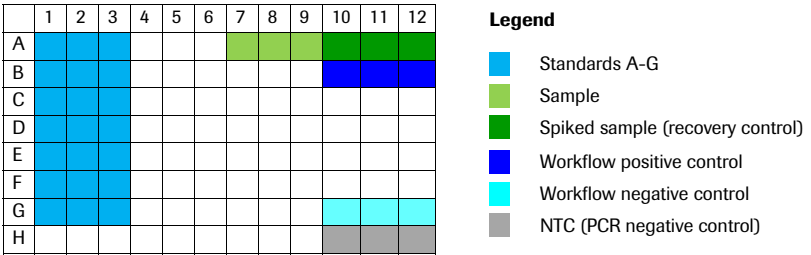

Fig. 2: Plate configuration proposal for one sample.
Figure 2 illustrates an example of a plate setup for only one sample, including all standards and controls. For accurate quantitative results, run triplicates for each PCR. Always run negative controls (NTC). To prepare a negative control (NTC), replace the template DNA with the PCR Negative Control (Vial 7).
- ① Perform laminar flow hood cleaning (using bleach, then ethanol or other disinfectant reagents) in the master mix room.
- ② Wipe pipetting tools with 10% bleach followed by 70% ethanol or other disinfectants. Wipe all other items with 70% ethanol before bringing into the hood.
- ③ Place the reagents (see Step 6) in a laminar flow hood, and let them thaw at +15 to +25°C.
- ④ Vortex and spin down briefly before opening.
- ⑤ Change tip after each pipetting step.
- ⑥ For the plate setup (Figure 2), prepare the master mix for 38 PCR reactions according to the table below. Use nuclease-free, DNA-free vials.